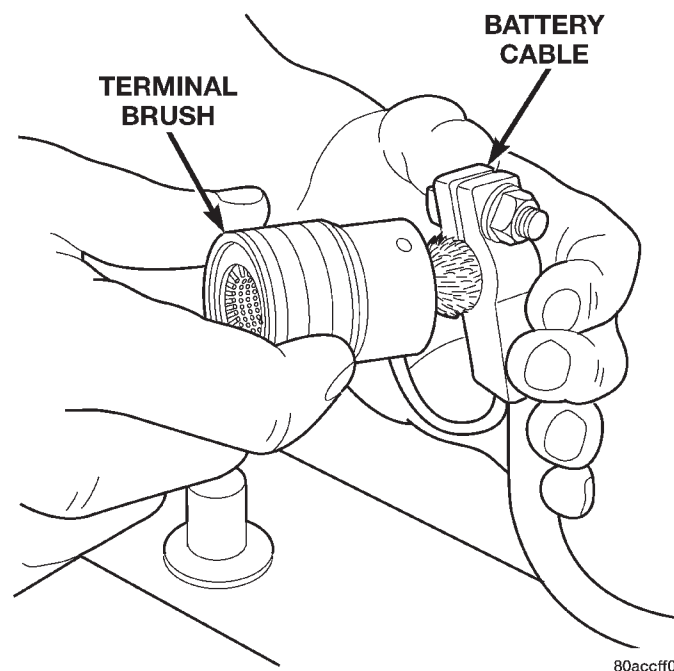

Fig. 16 Clean Battery Cable Terminal Clamp - Typical
(3) Inspect the cable terminal clamps for corrosion and damage. Remove any corrosion using a wire brush or a post and terminal cleaning tool, and a sodium bicarbonate (baking soda) and warm water cleaning solution (Fig. 16). Replace any cable that has damaged or deformed terminal clamps.